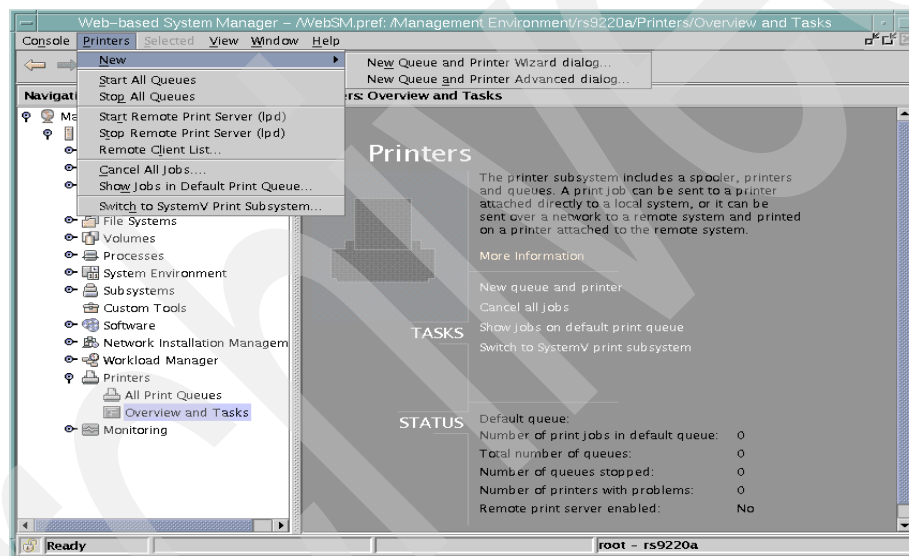

Figure 72. Overview and tasks for printers
2. From the panel shown in Figure 72, there are two ways you can add a printer: